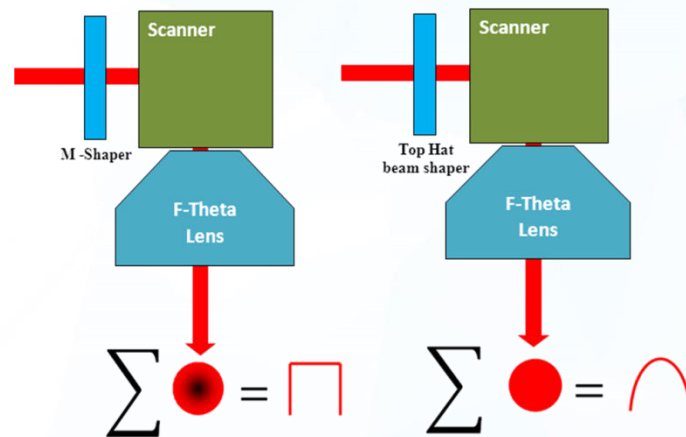

Figure 3 Left: Gaussian intensity profile vs. M-Shaped profile, in scanning mode. Right: Top-Hat intensity profiles vs. M-Shaped profile
- In principal, to get a flat-top scanning profile (as shown in Fig.3), optical designer needs to notice the following points: